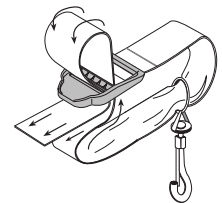

Fig. 4
2. Pull the strap over the cross bar and down through the slot in the buckle (Fig. 4).